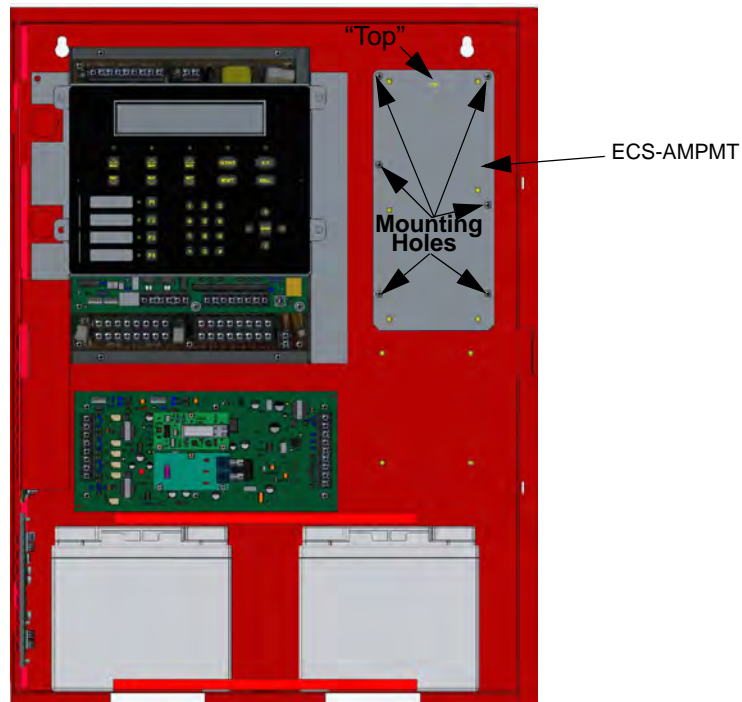
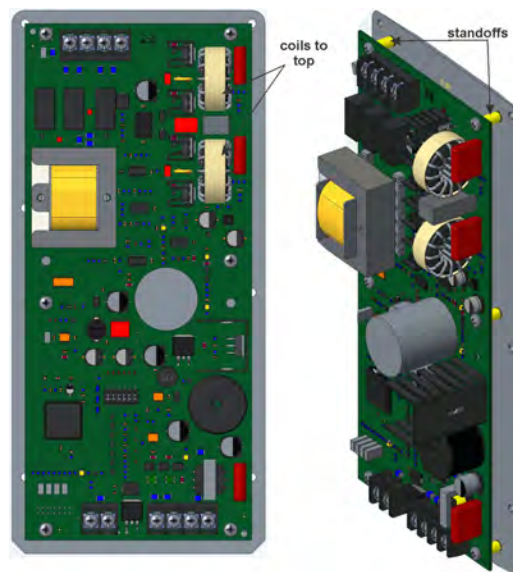

Figure 4.23 ECS-AMPMT installed in Cabinet
Figure 4.24 TR-INT50W Installed Using the ECS-AMPMT
4. Mount the ECS-AMPMT plate into the cabinet using the six supplied screws. Orientate with "Top" side up. (see Figure 4.23). Secure the TR-INT50W onto the six standoffs, making sure the two coil parts are at the top, and on the right side of the ECS-AMPMT. See Figure 4.24 and Figure 4.24 for coil position.